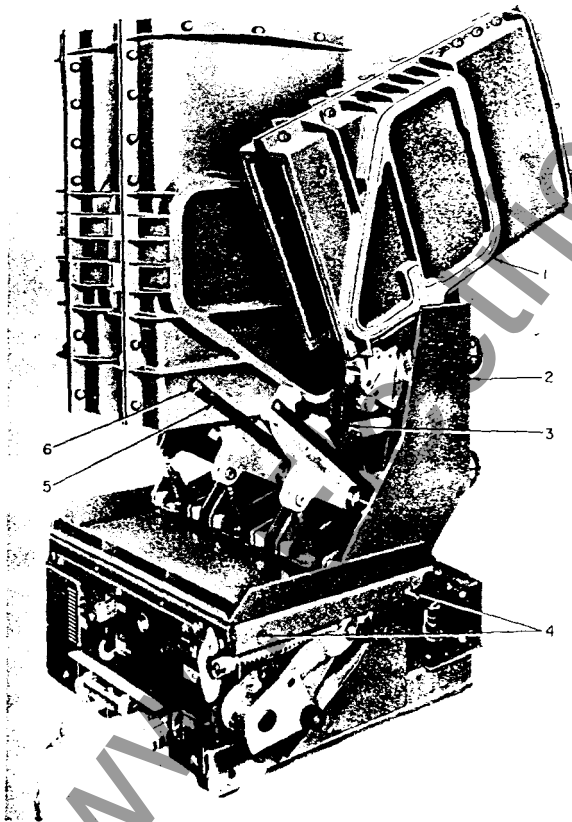

Fig. 2—View Showing Arc Chute and Contact Structure
The circuit breaker may be raised by means of a lifting yoke fastened at points (4, Fig. 2) located on each side of the base frame.
- a. Breakage to liner plates (1) and arc chute plates (3).
5. Installing Arc Chutes (See Fig. 2)
D. REMOVING ARC CHUTES (See Fig. 2)
1. Remove nut (6) to disconnect return connection bar (5).
2. Grasp the arc chute (1) from the front and top and tilt on its pivot towards the rear of the breaker until it rests on the lead support (2).